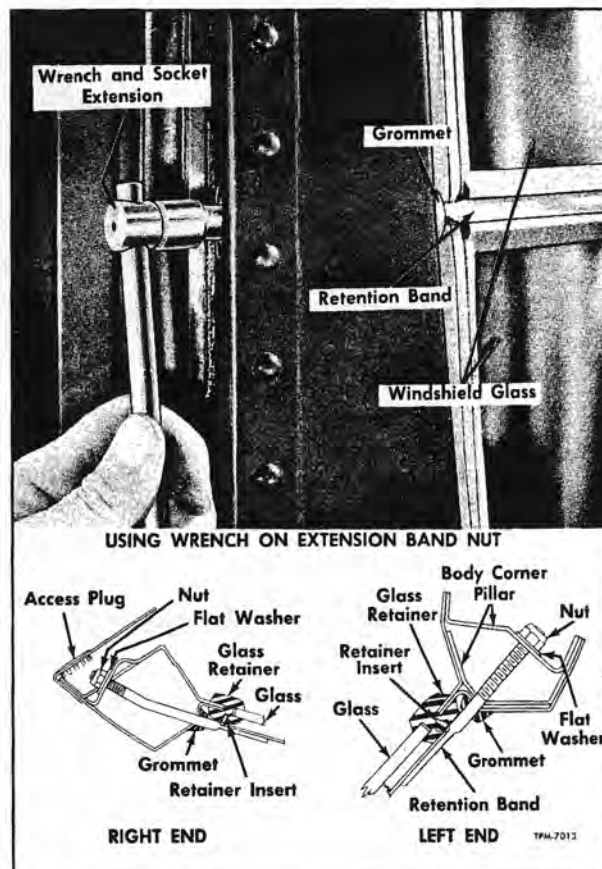

Figure 4—Windshield Retention Band Installation Views
**NOTE:** Before windshield center or lower glass section can be replaced the retention band across front of windshield must be removed. Figure 4 shows location of band and method of removing.